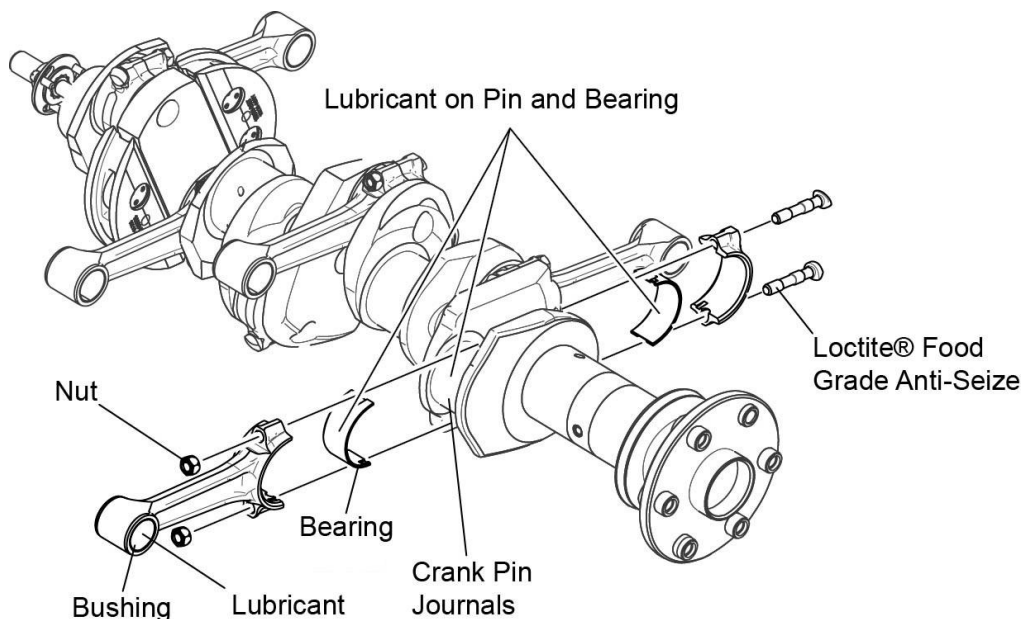

Figure 14
2. Apply specified lubricant to the connecting rod and bearing inserts (per the latest revision of Service Instruction No. SI-1059) where shown in Figure 14. Different lubricants are used on the various areas on the connecting rod and bearing surfaces.
8. Apply Loctite[®] Food-Grade Anti-Seize Lubricant or equivalent to the bottom two or three threads of the new connecting rod bolts (Figure 14). Wipe away excess lubricant with a clean, lint-free cloth.